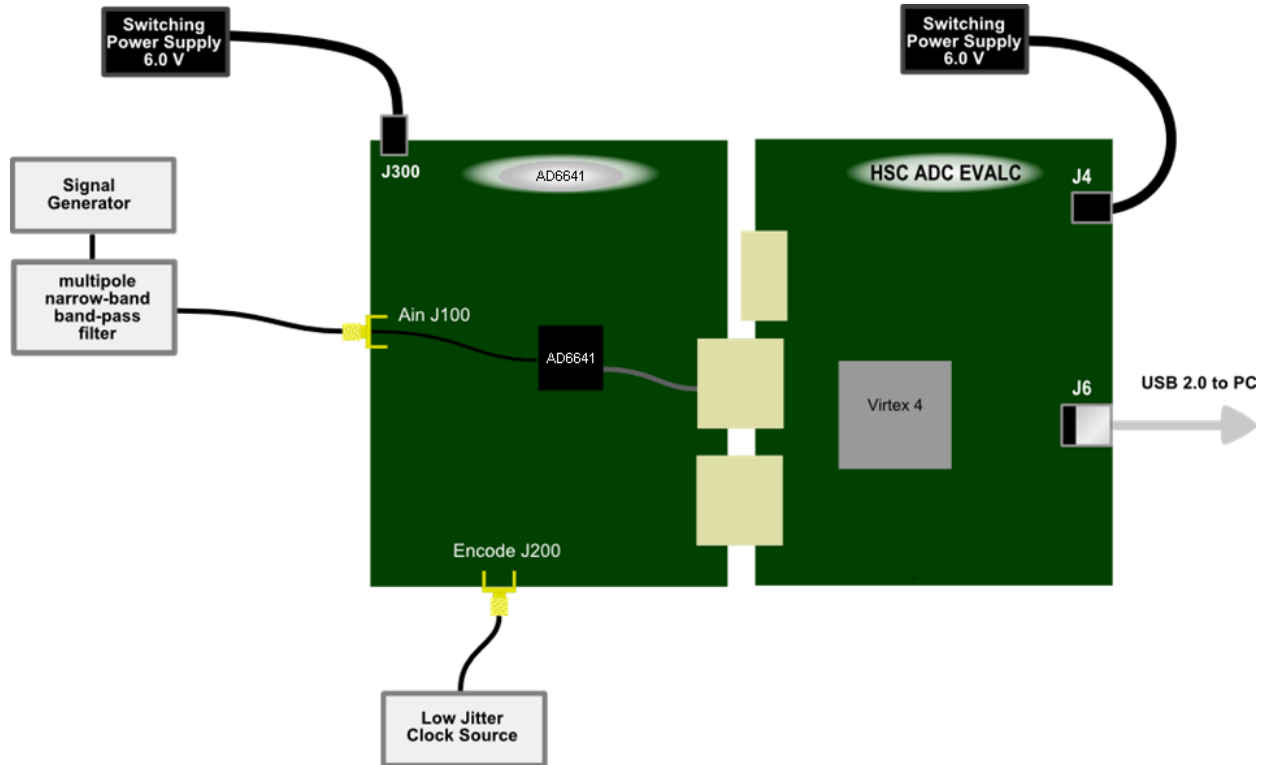

Figure 1: AD6641 ADC Evaluation Board – HSC ADC EVALC Data Capture Board
1. Connect the AD6641 evaluation board to the HSC-ADC-EVALCZ boards together as shown in Figure 1.